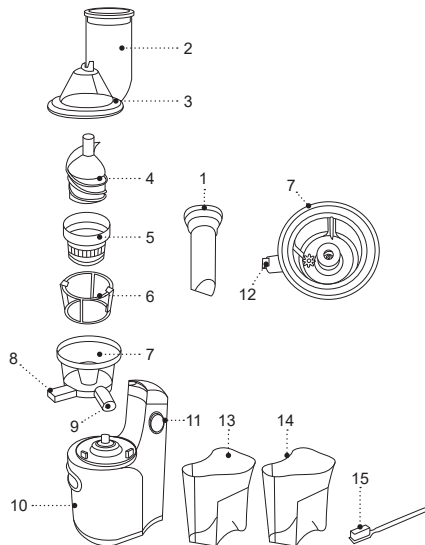

Abb. 1
- for best results, having extracted the Silicone Seal (12), remove and wash the Juice Bowl (8) and the pulp canal as well;
- before installing the Juice Bowl (7), make sure that the Silicone Seal (12) has been reinstalled (fig. 1).
- If you want to juice another fruit or vegetable without mixing the juice with the previous fruit or vegetable, close the Juice Spout (9), pour 1 or 2 glasses of water into the Feeding Chute, turn on the Juicer and leave it on for a while, open the cover of the juice spout - the liquid will be purged into the container, leaving the Juice Bowl with less remnants of the previous fruit or vegetable. Repeat the preliminary washing procedure, if necessary.
- To mix different juices while the juice extractor is running you can close the juice spout (9) lid and continue pressing juice from another fruit or vegetable, then open the spout (9) lid and pour the juice into the cup (13).
- Close the spout (9) lid when pouring the juice from the cup (13) or when the juice extractor operation is finished.
- If the auger (4) slows down during the juice extractor operation, immediately switch the juice extractor off by setting the power switch (11) to the «OFF» position, after the auger (4) stops rotating, move the power switch (11) to the «R» position and hold it, the auger (4) reverse rotation function will be activated. Let go of the Power Switch (11) after a few seconds, unplug the device from the mains, rotate the Feeding Chute/Lid (2-3) counter-clockwise, remove it, and attend to the cause of slowing down the rotation of
- Extract the Silicone Seal (12), located inside the Juice Bowl (7), clean and wash the pulp canal.
- Reinstall the Silicone Seal (12) back inside the Juice Bowl (7) (fig. 1).
- Use the brush (15) to clean the Mesh Filter (5) and other hard-to-reach places.
- Clean the motor unit (10) with a slightly damp tissue, then wipe it dry.